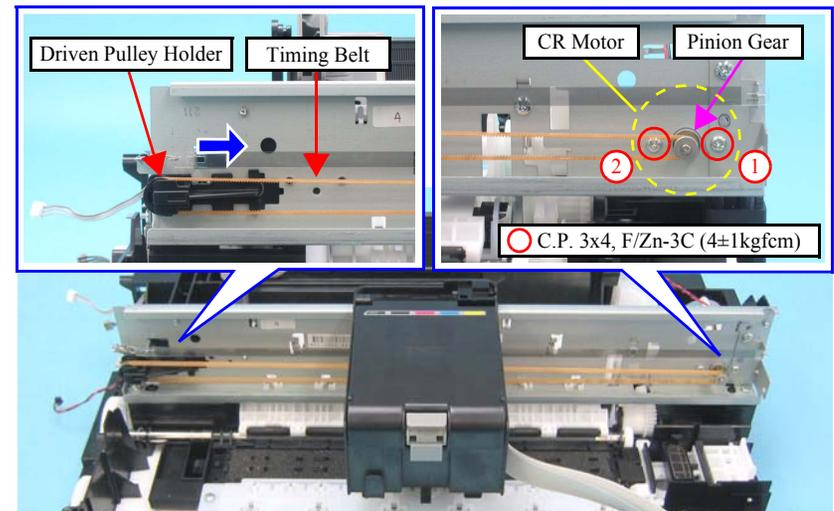

Figure 4-54. Removing CR Motor (2)
- Tighten the screws in the order given in Figure 4-54.